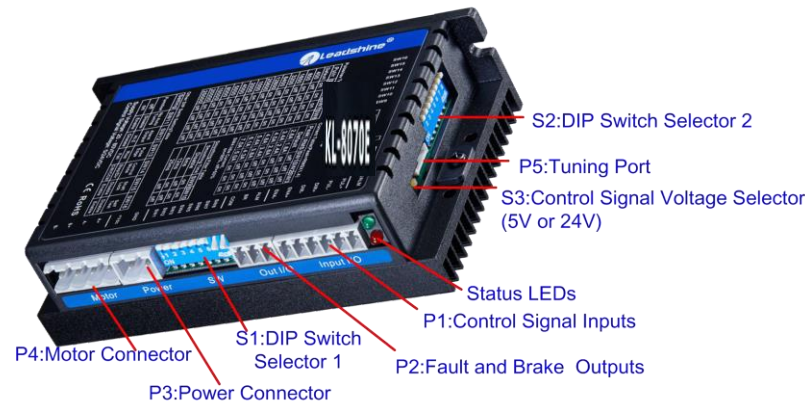

Figure 2 Connectors, DIP switches, and LED locations
PUL+ (CW+)	Pulse and Direction Connection: (1) Optically isolated, high level 4.5-5V or 24V, low voltage 0-0.5V (2) Maximum 200 KHz input frequency (3) The width of PUL signal is at least 2.5μs, duty cycle is recommended 50% (4) Single pulse (step & direction) or double pulse (CW/CCW) is set by DIP Switch SW14 (5) DIR signal requires advance PUL signal minimum 5 μs in single pulse mode (6) The activated edge of PUL and DIR is set by DIP Switch SW13 (7) The factory setting of control signal voltage is 24V, must need to set S3 (figure 2) if it is 5V Enable Connection: Optional. (1) Optically isolated, differential. (2) Disable the drive by 4.5-5.0V or 24V input connection; enable the drive by 0-0.5V connection(default no connection) (3) ENA signal requires advance DIR signal minimum 5μs in single pulse mode (4) The default control signal voltage is 24V, to set S3 (figure 2) if it is 5V (5) Enable time to be at least 200ms
The KL-8070E can accept differential or single-ended control signals (pulse, direction, and enable) in open-collector or PNP connection through the P1 connector (figure 2).
The first 8-bit is located on the side (DIP switch selector 1 in Figure 2) and used to configure settings of micro step resolution, output current, and motor standstill current as shown below, the factory setting of SW1-SW8 is **OFF, OFF, OFF, OFF, OFF, OFF, ON, ON**.
The second 8-bit DIP switch is located on the top (DIP switch selector 2 in figure 2), and used to configure settings of control command filtering time, motor auto-configuration, fault output impedance, pulse active edge, control mode, lock shaft, and self-test as shown below, the factory setting of SW1-SW8 is **OFF, OFF, OFF, ON, ON, OFF, OFF, OFF**.
The Third 1-bit selector is located on the top (DIP switch selector 3 in figure 2), used to configure the voltage of control signals. For the safety of optically coupled, the factory setting is 24V, which no need to connect 2K resistors like the old drives, making it easier to use. When the voltage of the control signal is 5V, the S3 must be set to 5V, otherwise, the motor won't work.